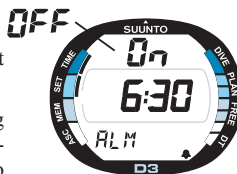

Fig. 4.7. Daily Alarm Setting Mode is activated.
2. Wait two seconds until the Daily Alarm Setting Mode activates automatically. The time mode indicator appears and the alarm status [On/OFF] starts to blink on the display (Fig. 4.7).